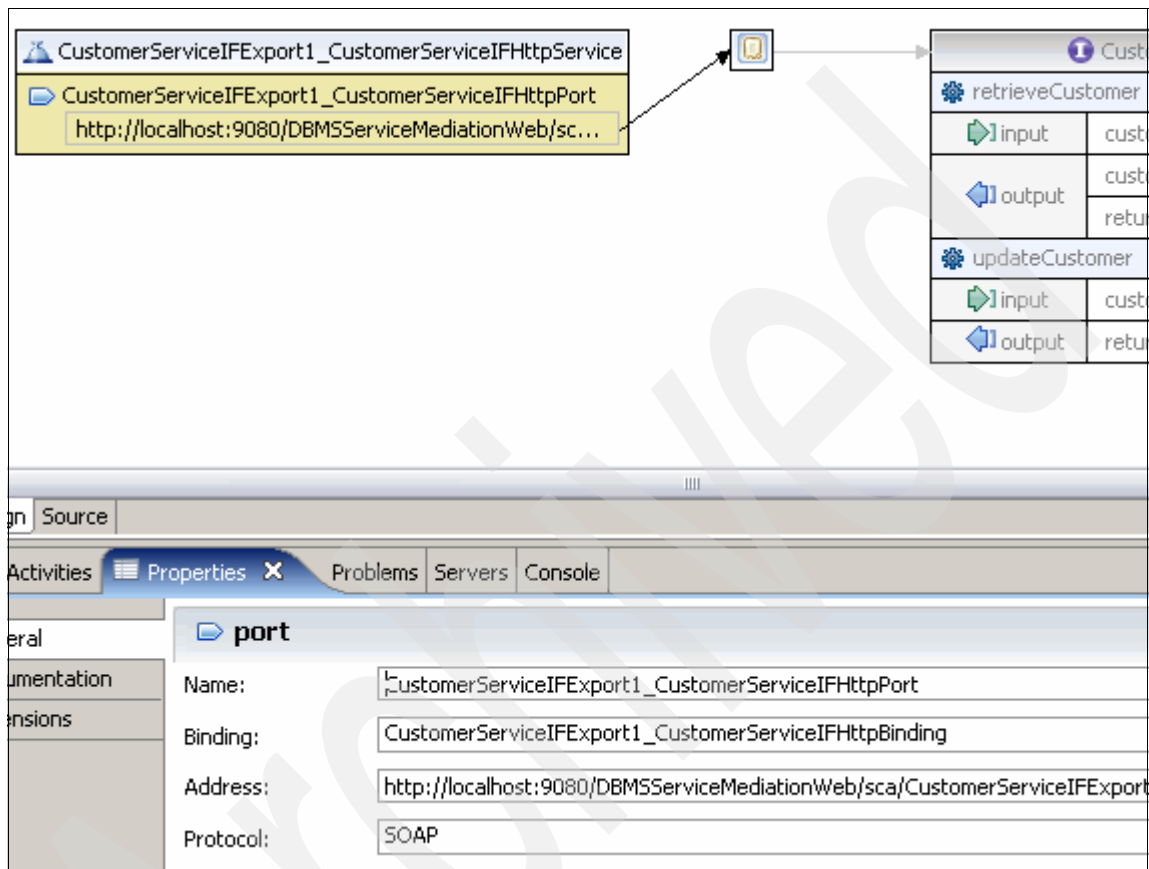

Figure 7-10 Web service port in the WSDL editor
3. The interface opens in the WSDL editor. If you are not in the Design pane when it opens, switch to it. Look at the Web service URL and if necessary change the port to the port that you identified previously (Figure 7-10).